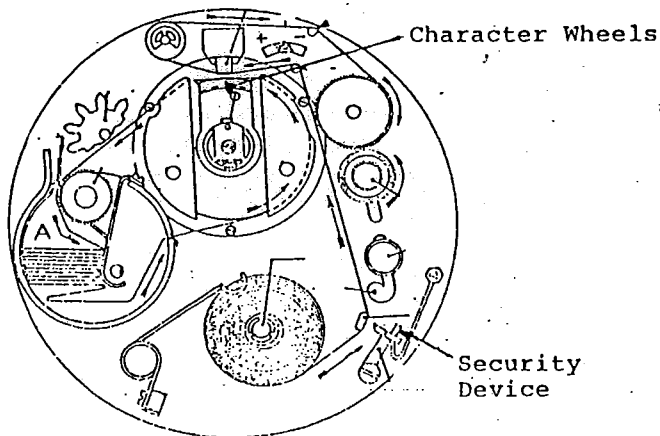

Figure 1
1. A Clockwork movement driving the hands and two character wheels. One wheel registers 0 - 58 minutes in two minute intervals. The second wheel registers 0 - 23 hours advancing in steps every hour. See Figure 1.
3. A Security device to prevent fraudulent opening: When opened by key provided a small hole is punched in the tape Thus each tape should have only one punched hole in it between openings. See Figure 1.